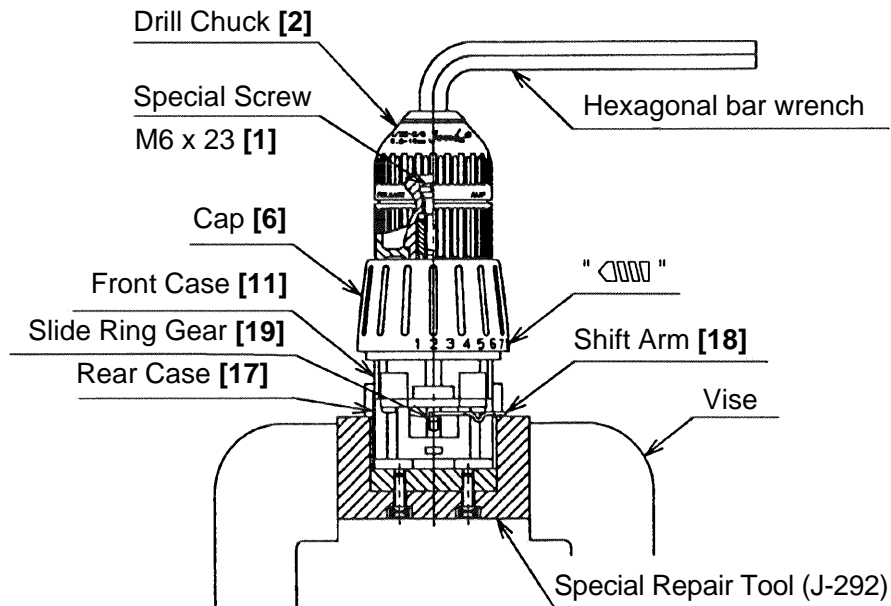

Fig. 4
(3) Remove the Drill Chuck **[2]**. (See Fig. 4.)
(b) Mount the motor spacer (an accessory of the Special Repair Tool J-292) to the assembly of the Drill Chuck **[2]**, Cap **[6]**, Front Case **[11]** and Rear Case **[17]** and then mount it to the Special Repair Tool J-292 clamped in the vise as illustrated in Fig.4. In this operation, check that the pinion press-fitted in the Special Repair Tool J-292 and the Planet Gear (A) **[23]** are engaged properly.
(e) Fit the hexagonal bar wrench for M10 into the Drill Chuck **[2]** as illustrated in Fig. 4 and remove the Chuck by turning the bar wrench counterclockwise.